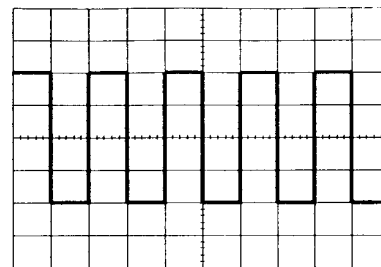

Figure 4-3
- 5) Set the AC-DC-GND switch to the AC state. A waveform as shown in the figure 4-3 will be displayed on the CRT screen
- 8) Adjust the  $\Delta V$  POSITION and  $\triangleleft \triangleright$  POSITION controls in appropriate positions so that the displayed waveform is aligned with the graticule and voltage( $V_p-p$ ) and period(T) can be read conveniently. The above are the basic operating procedures of the oscilloscope. The above procedures are for single-channel operation with CH 1. Single-channel operation with CH 2 can also be achieved in a similar manner. Further operation methods are explained in the subsequent paragraph.